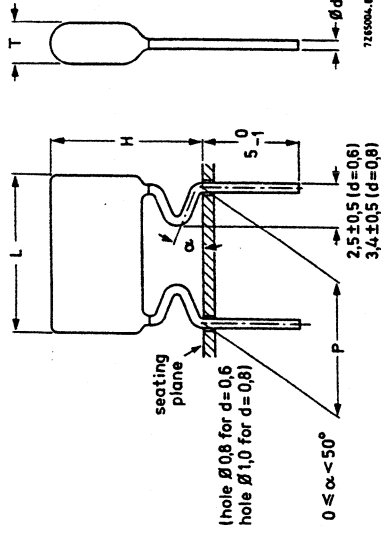

Fig. 1 Capacitors 2222 347.
Table 1 U_R (DC) = 100 V; max. AC voltage = 50 V, Fig. 1